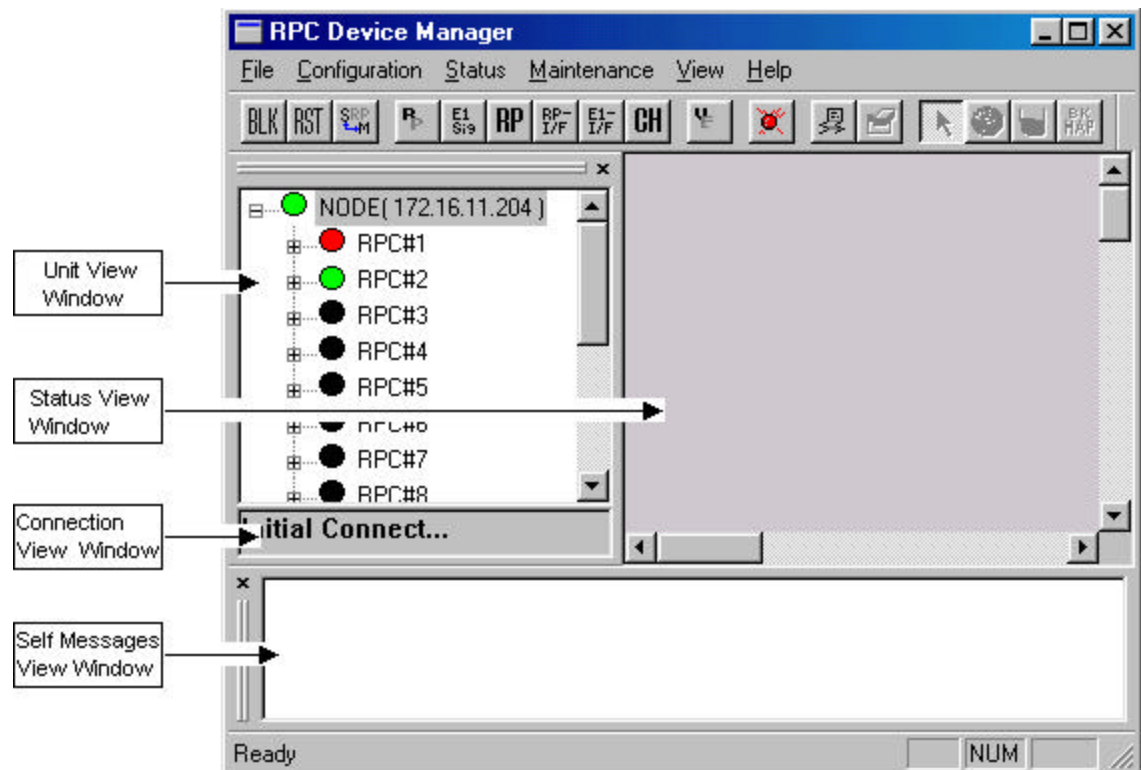

Figure 4-4: RPC Window
3. A connection status box appears, displaying the connection process. When the process is complete, the **RPC** window opens with four frames, as displayed in Figure 4-4.